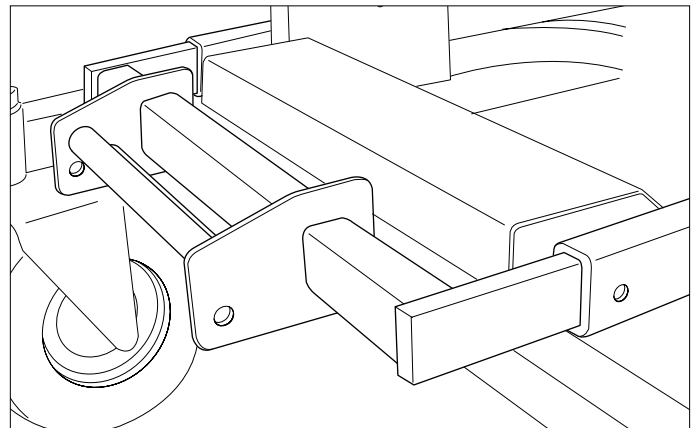

Figure 32. Weight Rack Installation
3. Slide the weight mount rack into the main frame tubes and align with the holes drilled through the frame (see Figure 32). It may require you drive the arms into the frame tubes using a wooden block and hammer.